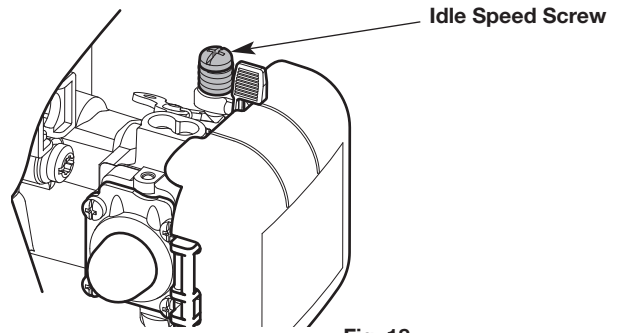

Fig. 18
2. Move the cruise control to the **LO (slow)** position and let the engine idle. If the engine stops, increase the idle speed. Use a small Phillips screwdriver to turn the idle speed screw clockwise, 1/8 of a turn at a time, until the engine idles smoothly (Fig. 18).